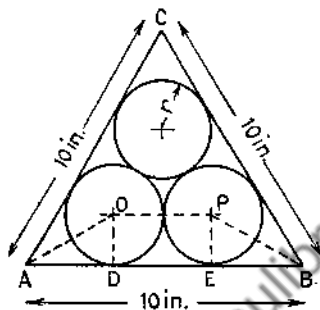

Fig. 41
(3) Find the radius  $r$  of the plugs shown in fig. 41.